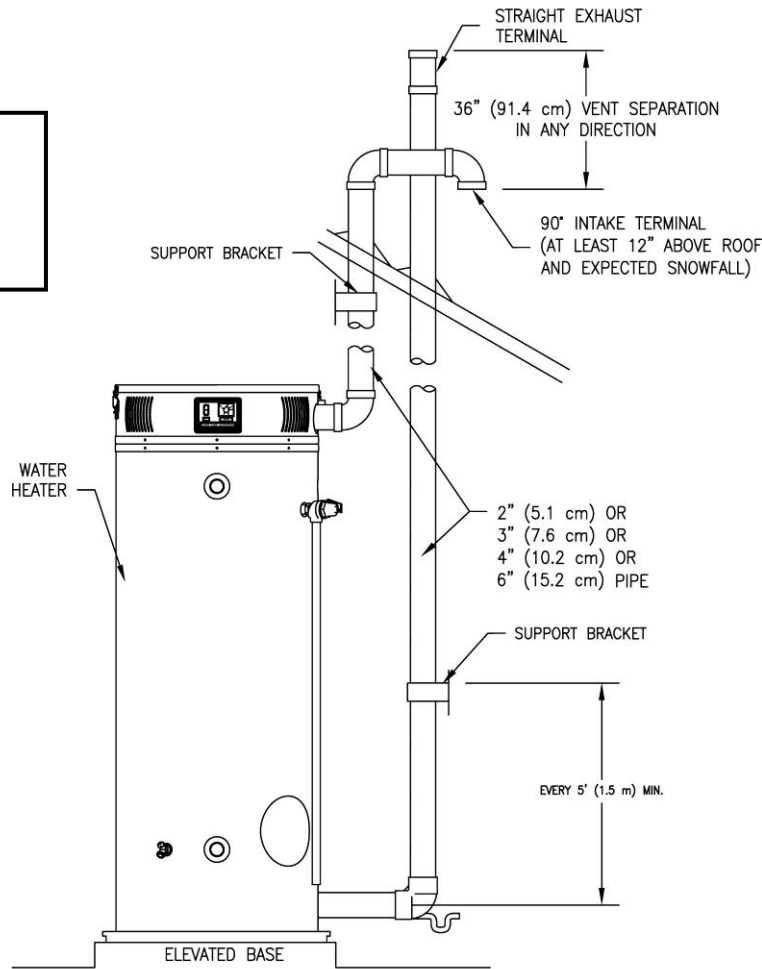

Figure 13 - Typical Vertical Direct Vent System Installation
2. Install the exhaust vent and air intake plastic pipes as shown in Figure 13. Make sure that the installation meets the local codes and/or The National Fuel Gas Code ANSI Z223.1 (Latest Edition) or CGA/CAN B149 Installation Code.